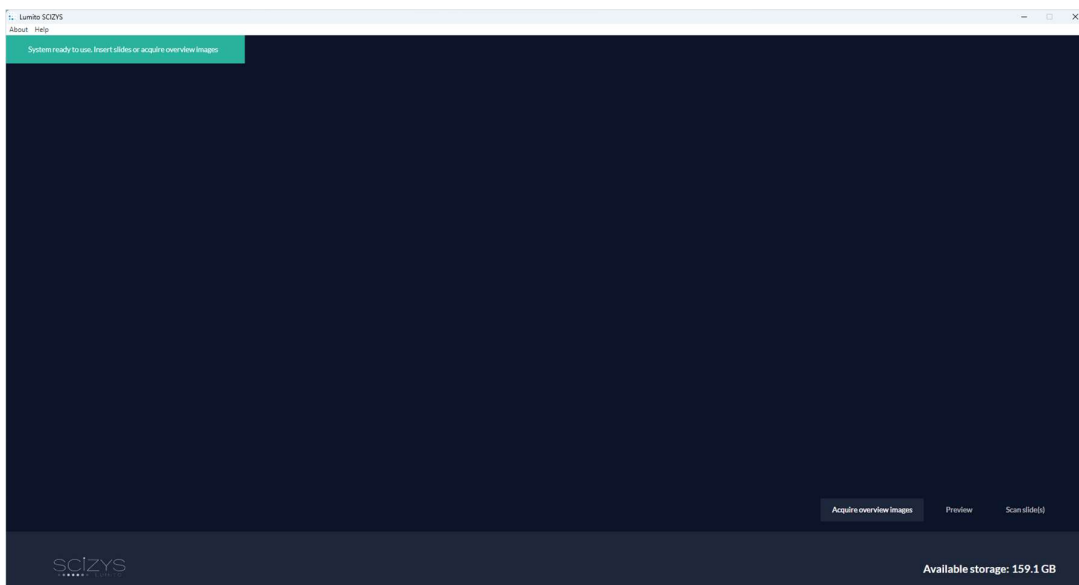

Figure 6-2 SCIZYS software with the prompt to insert new slides displayed on the screen.
4. Wait until SCIZYS software has started and the prompt to insert new slides is displayed on the screen (*Figure 6-2*).